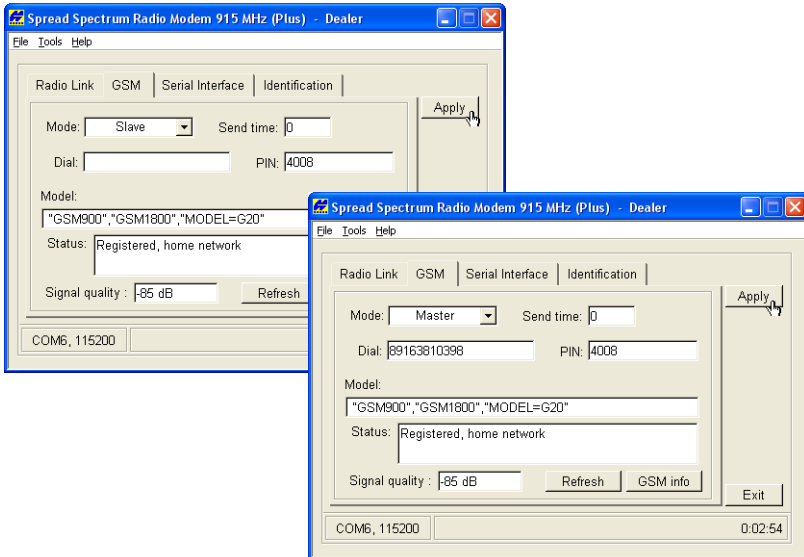

Figure 3-4. Select GSM Parameters for the Base and Rover
3. On the *GSM* tab, set the following parameters (Table 3-3 on page 3-8) and click **Apply** (Figure 3-4 on page 3-8). If some fields display “N/A”, click **Refresh**.